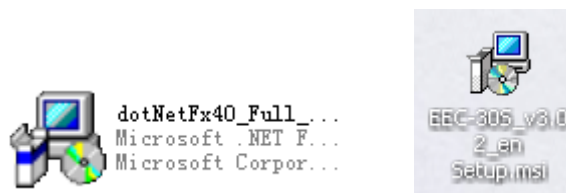

Figure 2-3 Installation icons
1. Find out the software of EEC-30S.EXE from D disk or from CD-ROM, the icon is showed as figure 2-3.